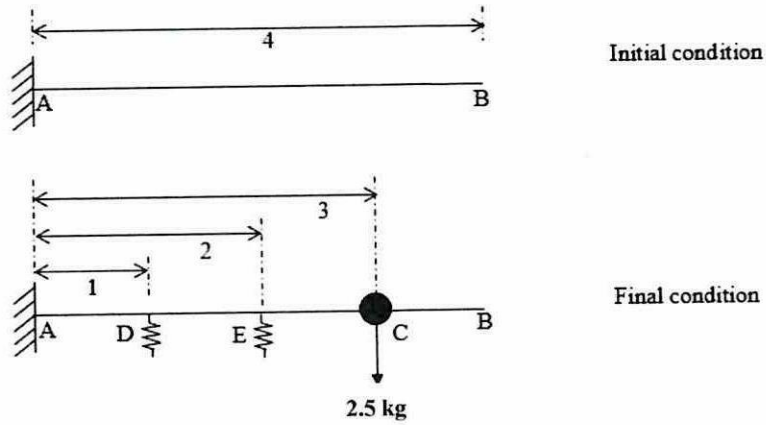

Figure Q6(b)
- Q6** (a) Define natural frequency for undamped free vibration and list **two (2)** ways for determining it. (4 Marks)
- (b) A uniform thin rod AB as shown in **Figure Q6(b)** is hinged at point A. The moment of inertia of the thin rod at point A is 75 kgm^2 . A concentrated mass of 2.5 kg is then fixed at the point C and balanced horizontally by two springs positioned at point D and E. Given the spring stiffness of spring D and E are 3.0 kN and 1.0 kN respectively;